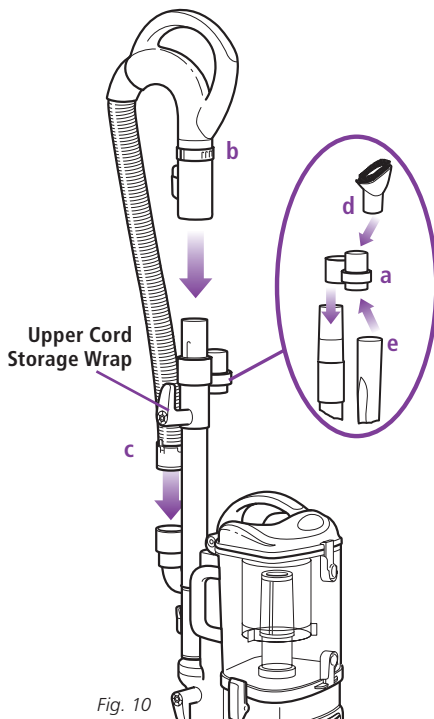

Fig. 10
- 4 Slide the accessory holder (a) positioned opposite the upper cord wrap, over the extension wand. Align the tab with the groove and push down. **(Fig. 10)**
- 5 Push the handle (b) onto the top of the extension wand until you hear it click into place. **(Fig. 10)**
- 6 Insert the end of the stretch hose (c) into the connector on the back of the *Lift-Away*® canister. **(Fig. 10)**
- 7 Store the dusting brush (d) and the crevice tool (e) on the mounts of the accessory holder. **(Fig. 10)**